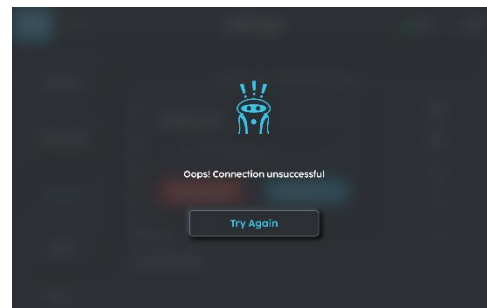

Fig 7
3. Should the screen show fail to connect (Fig 7), check your network configuration and settings and try again. Otherwise contact your network administrator.